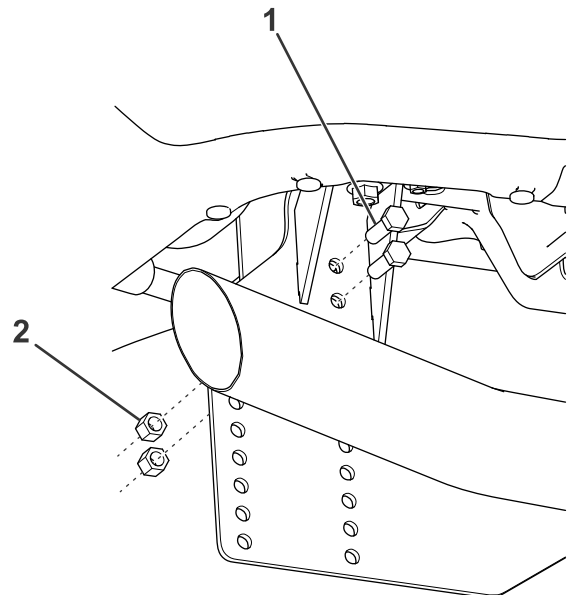

**Figure 5**
- Loosely secure the sidestraps to the vehicle frame using the previously removed fasteners, 2 bolts (5/8 inch), 4 split lockwashers, and 2 nuts (5/8 inch) as shown in Figure 5.